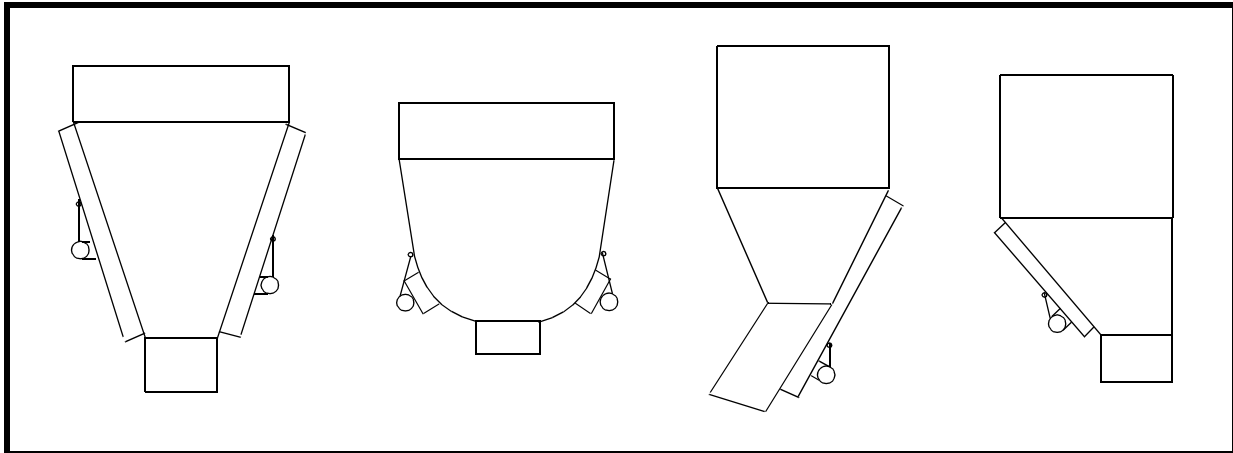

Figure 1. Locating Vibrator on Hoppers
1. See Figure 1. Locate vibrator in lower 1/4 to 1/3 of structure slope length. If second vibrator is required, mount 180° from first vibrator and halfway up slope.
- b. Locate plate so that vibrator can be positioned as shown in Figure 1.
- a. Locate channel so that vibrator can be positioned as shown in Figure 1.